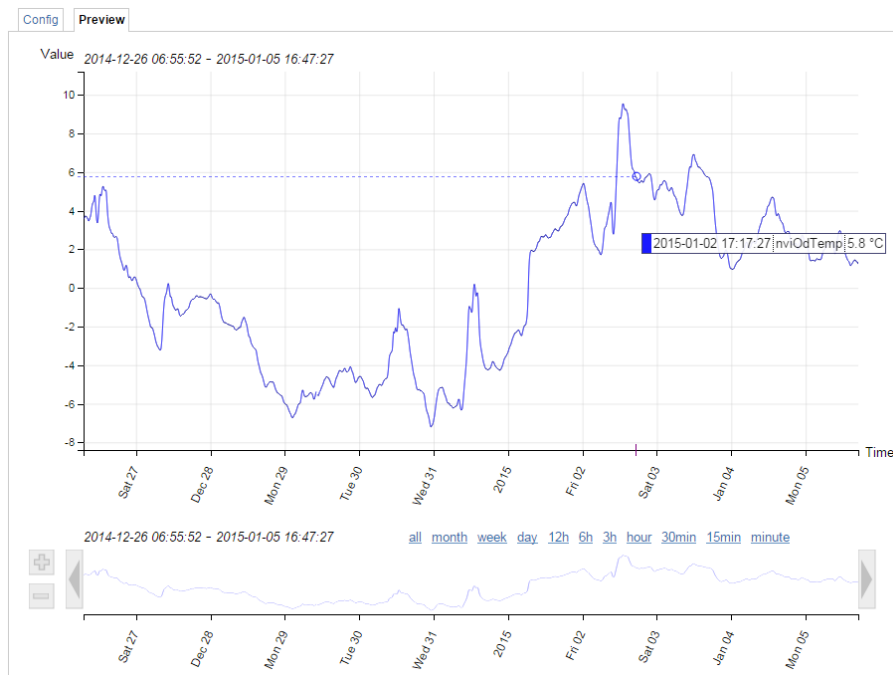

Figure 37: New trend chart on the Web UI
- The trend log configuration on the Web UI now also provides a preview tab, which shows a chart of the trend log data. The trend chart allows zoom, scrolling and hiding specific data curves, as shown in Figure 37.